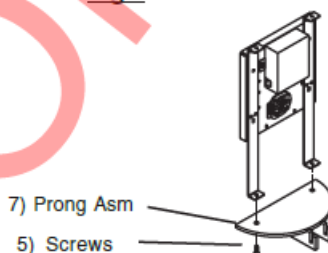

Fig 7
2. DLSD7, DLSD8, DLSD9 & DLSD17- Align holes in Prong Assembly (7) with holes in bottom of mounting brackets and secure with Screws (5) See Fig 7.